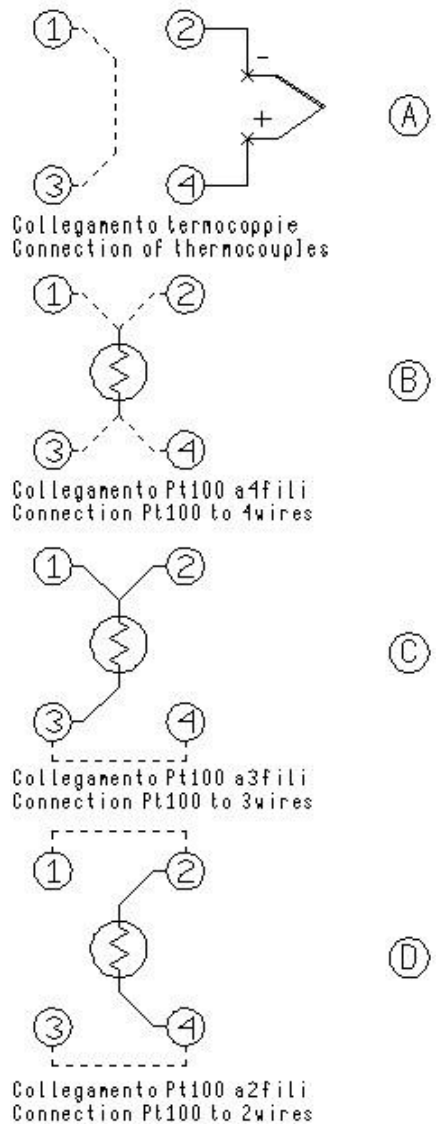

Fig. 6
- ◇ Thermocouple – connect the wires to the clamps 2-4 to make attention to the polarity; connect the clamps 1-3 as indicated. Reference to Fig. 6-A
- ◇ Pt100 to 4 wires – connect the clamps 1-2-3-4 as indicated in Fig. 6-B
- ◇ Pt100 to 3 wires – connect the wires to clamps 1-2-3; connect the clamps 3-4. Reference to Fig. 6-C
- ◇ Pt100 to 2 wires – connect the wires to clamps 2-4; connect the clamps 1-2 & 3-4. In case of two wires connections remembers to us shortest wires possible. Refer to Fig. 6-D